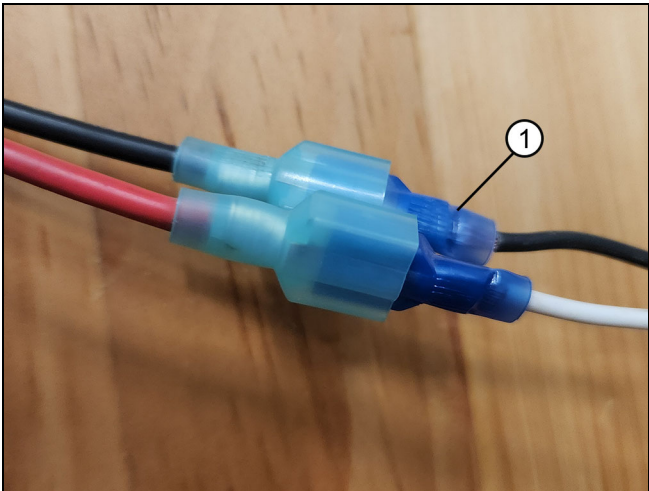

Figure 21
2. **Control Box to Motor:** the red Super Cable connects to the corresponding port on the motor. Red and black female leads from the motor to the black and white male leads from the control box. See Figure 21.